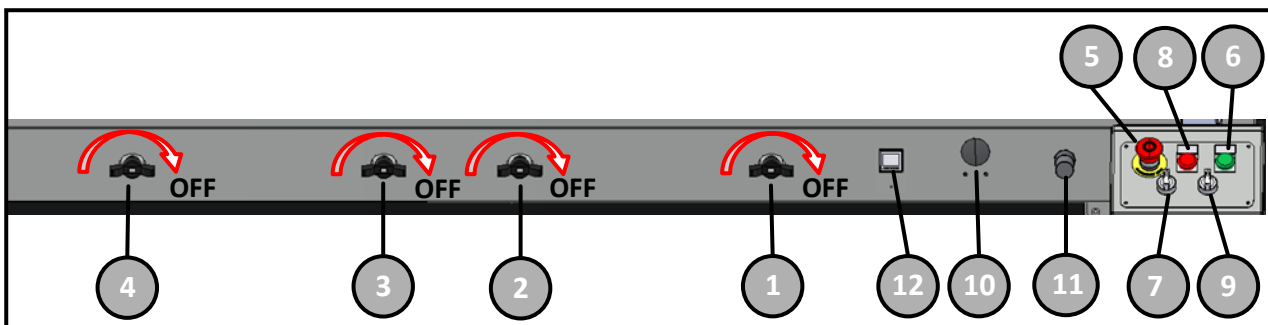

Figure 6-1
- Make sure the emergency button (5) Figure 6-1 has been released.
- Press the power on button (6) located on the control panel (Figure 6-1). If properly connected a white light should turn on.
- Rotate CW the vacuum pump selector (7) Figure 6-1 to turn the pump on.
- Rotate CW the Vacuum ON/OFF selector (9) to enable suction.
- Open manual tap 1 Figure 6-1 to enable suction on the first sector of the table.
- Press the emergency button (5) to tun OFF the machine.
- Insert the power by pressing the Machine Power button (6), Figure 6-1
Note: If the button does not light up, check if the emergency button -Figure 6-1 - was pressed down, if so disarm it (see par.6) and repeat the pressure of the Machine Power key.
- Start the vacuum pump using the selector (7) and open the suction using the selector (9) Figure 6-1.
- Open vacuum zones (1) (2) (3) (4) according to the material dimension Figure 6-1.
- Press the Machine Power button (6), Figure 6-1